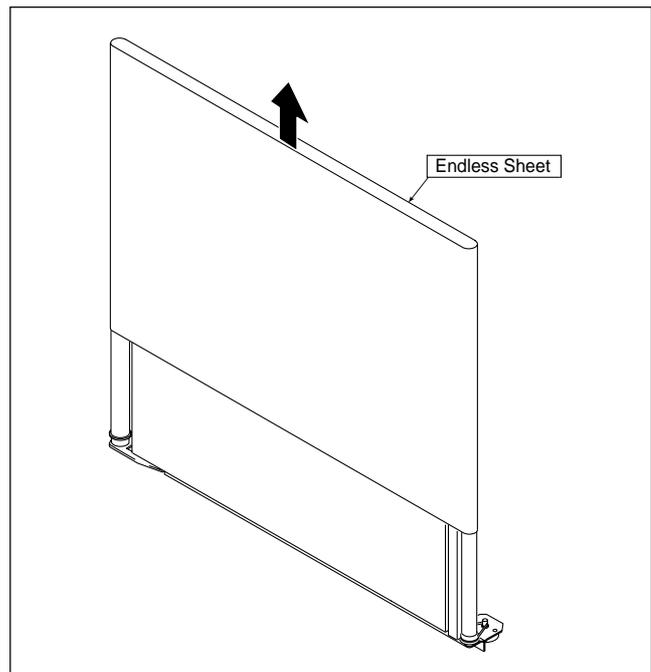

Fig. 22
2. Remove the Endless Sheet as shown in Figure 22.